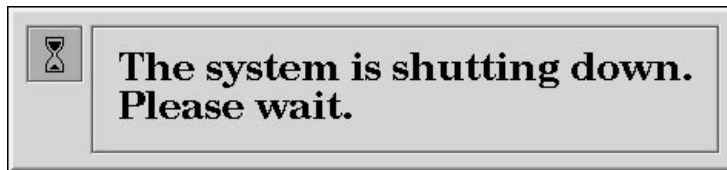

Figure 8-2 System Shutdown Notifier
2. Click OK. The screen clears and you see the notifier shown in Figure 8-2.